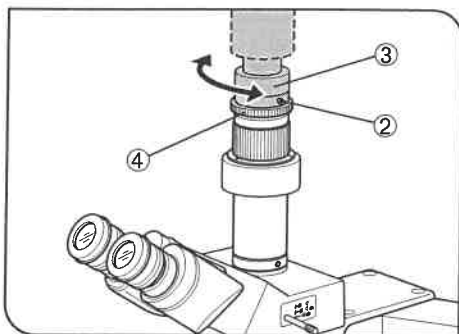

Fig. 6
Loosen clamping screw ② on the upper part of the zoom lens, rotate the camera mount adapter ③ and focusing ring ④ together, and tighten screw ② again. (Fig. 6)